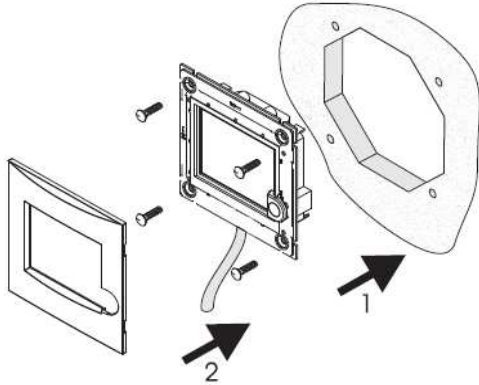
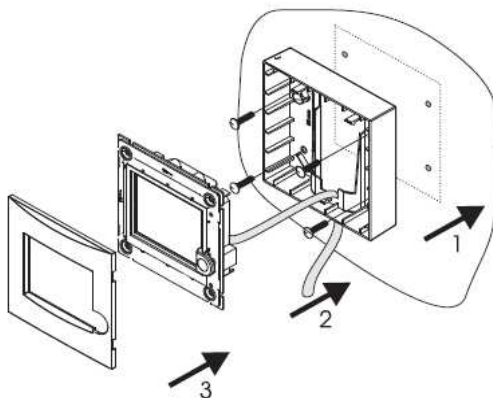

Figure 17
Figure 18
- o Flush mounting (see figure 17):
- Mount the MasterView Easy onto the panel (1) and then reattach the front (2).
- o Panel mounting (see figure 18):
- Drill the holes using the dimensions at the back of the front plate and fasten the outer housing (1).
- Click the panel into the outer housing (2).
- Reattach the front (3).